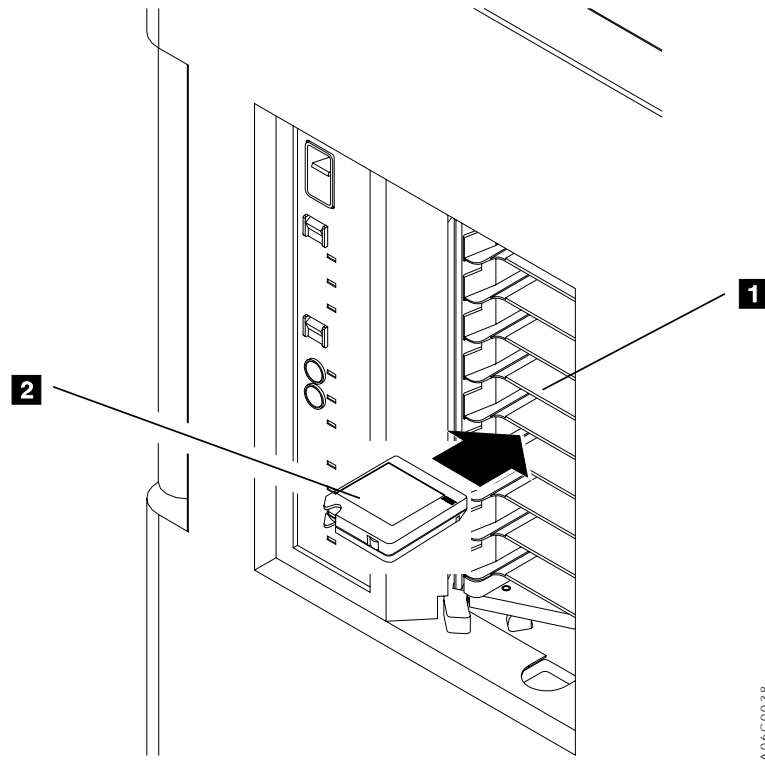
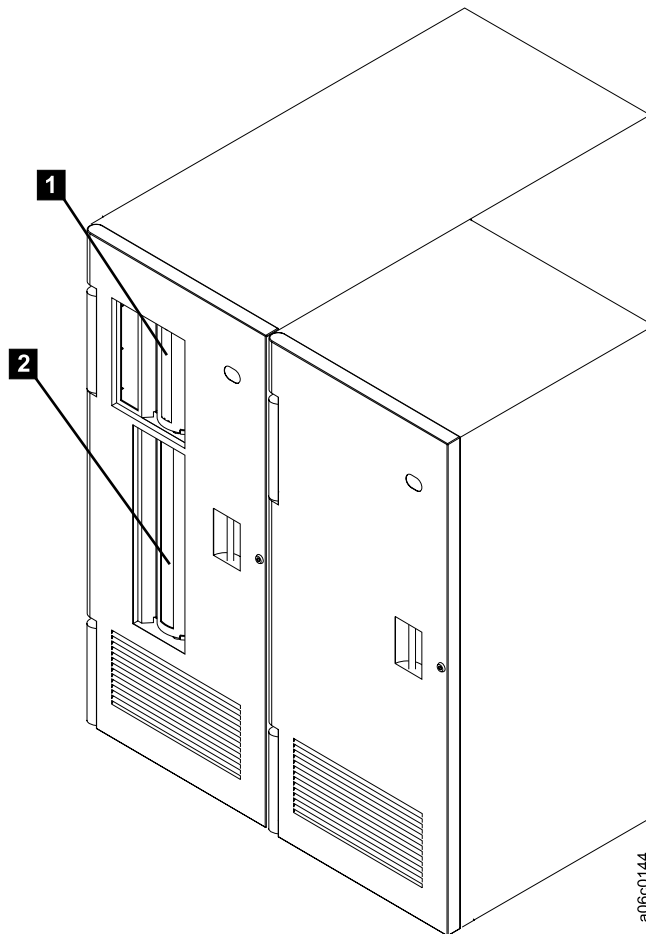

Figure 38. Inserting Cartridges in the Convenience I/O Station
Figure 39. Optional 30 Cartridge Convenience I/O Station
Note: Figure 38 on page 87 shows the optional 10-cartridge convenience I/O station. Figure 39 on page 89 shows the optional 30-cartridge convenience I/O station. If the 30-cartridge convenience I/O station is installed, the operation remains the same, but there are two operator doors. The upper operator door **1** provides access to the upper ten cartridge cells. The lower operator door **2** provides access to the lower 20 cartridge cells. (Both doors open together.)
2. Insert the cartridges (**2** in Figure 38 on page 87) that you want to add to the 3494 into the convenience I/O station **1** with the cutoff corner (and leader block) to the left and the external label facing to the **inside** of the convenience I/O station. Shut the convenience I/O station door.